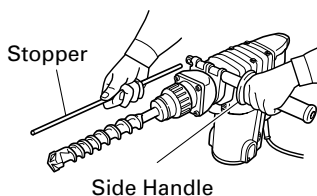

Fig. 10
5. Install the stopper (Fig. 10)